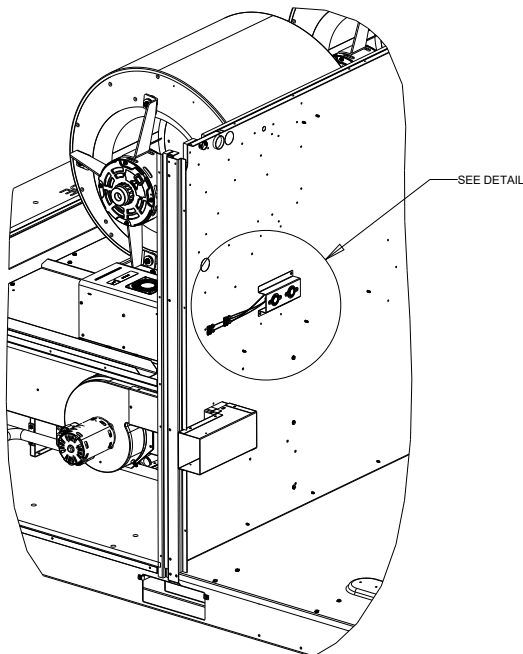

FIGURE 30
4. Attach the Temperature Switch(es) and the T-Stat Mount to the outside partition panel using the #10 X 3/4" screws. See Figure 30 & 31.